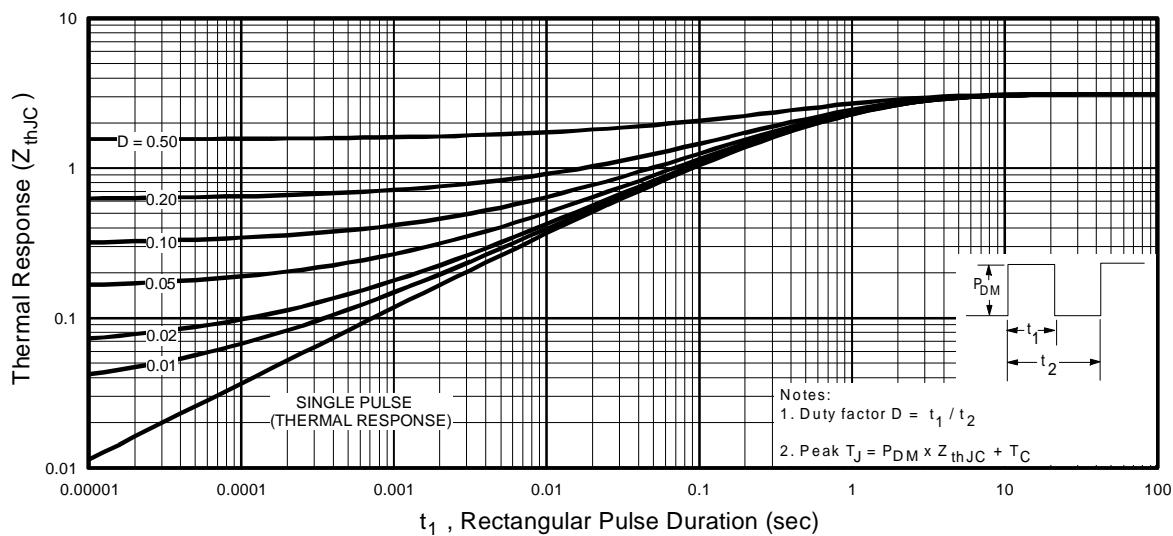

Fig 11. Maximum Effective Transient Thermal Impedance, Junction-to-Case
- ① Repetitive rating; pulse width limited by max. junction temperature. (See fig. 11)
- ③ $I_{\text{SD}} \leq 55\text{A}$, $dI/dt \leq 100\text{A}/\mu\text{s}$, $V_{\text{DD}} \leq V_{(\text{BR})\text{DSS}}$, $T_J \leq 175^\circ\text{C}$ ⑥ $t=60\text{s}$, $f=60\text{Hz}$